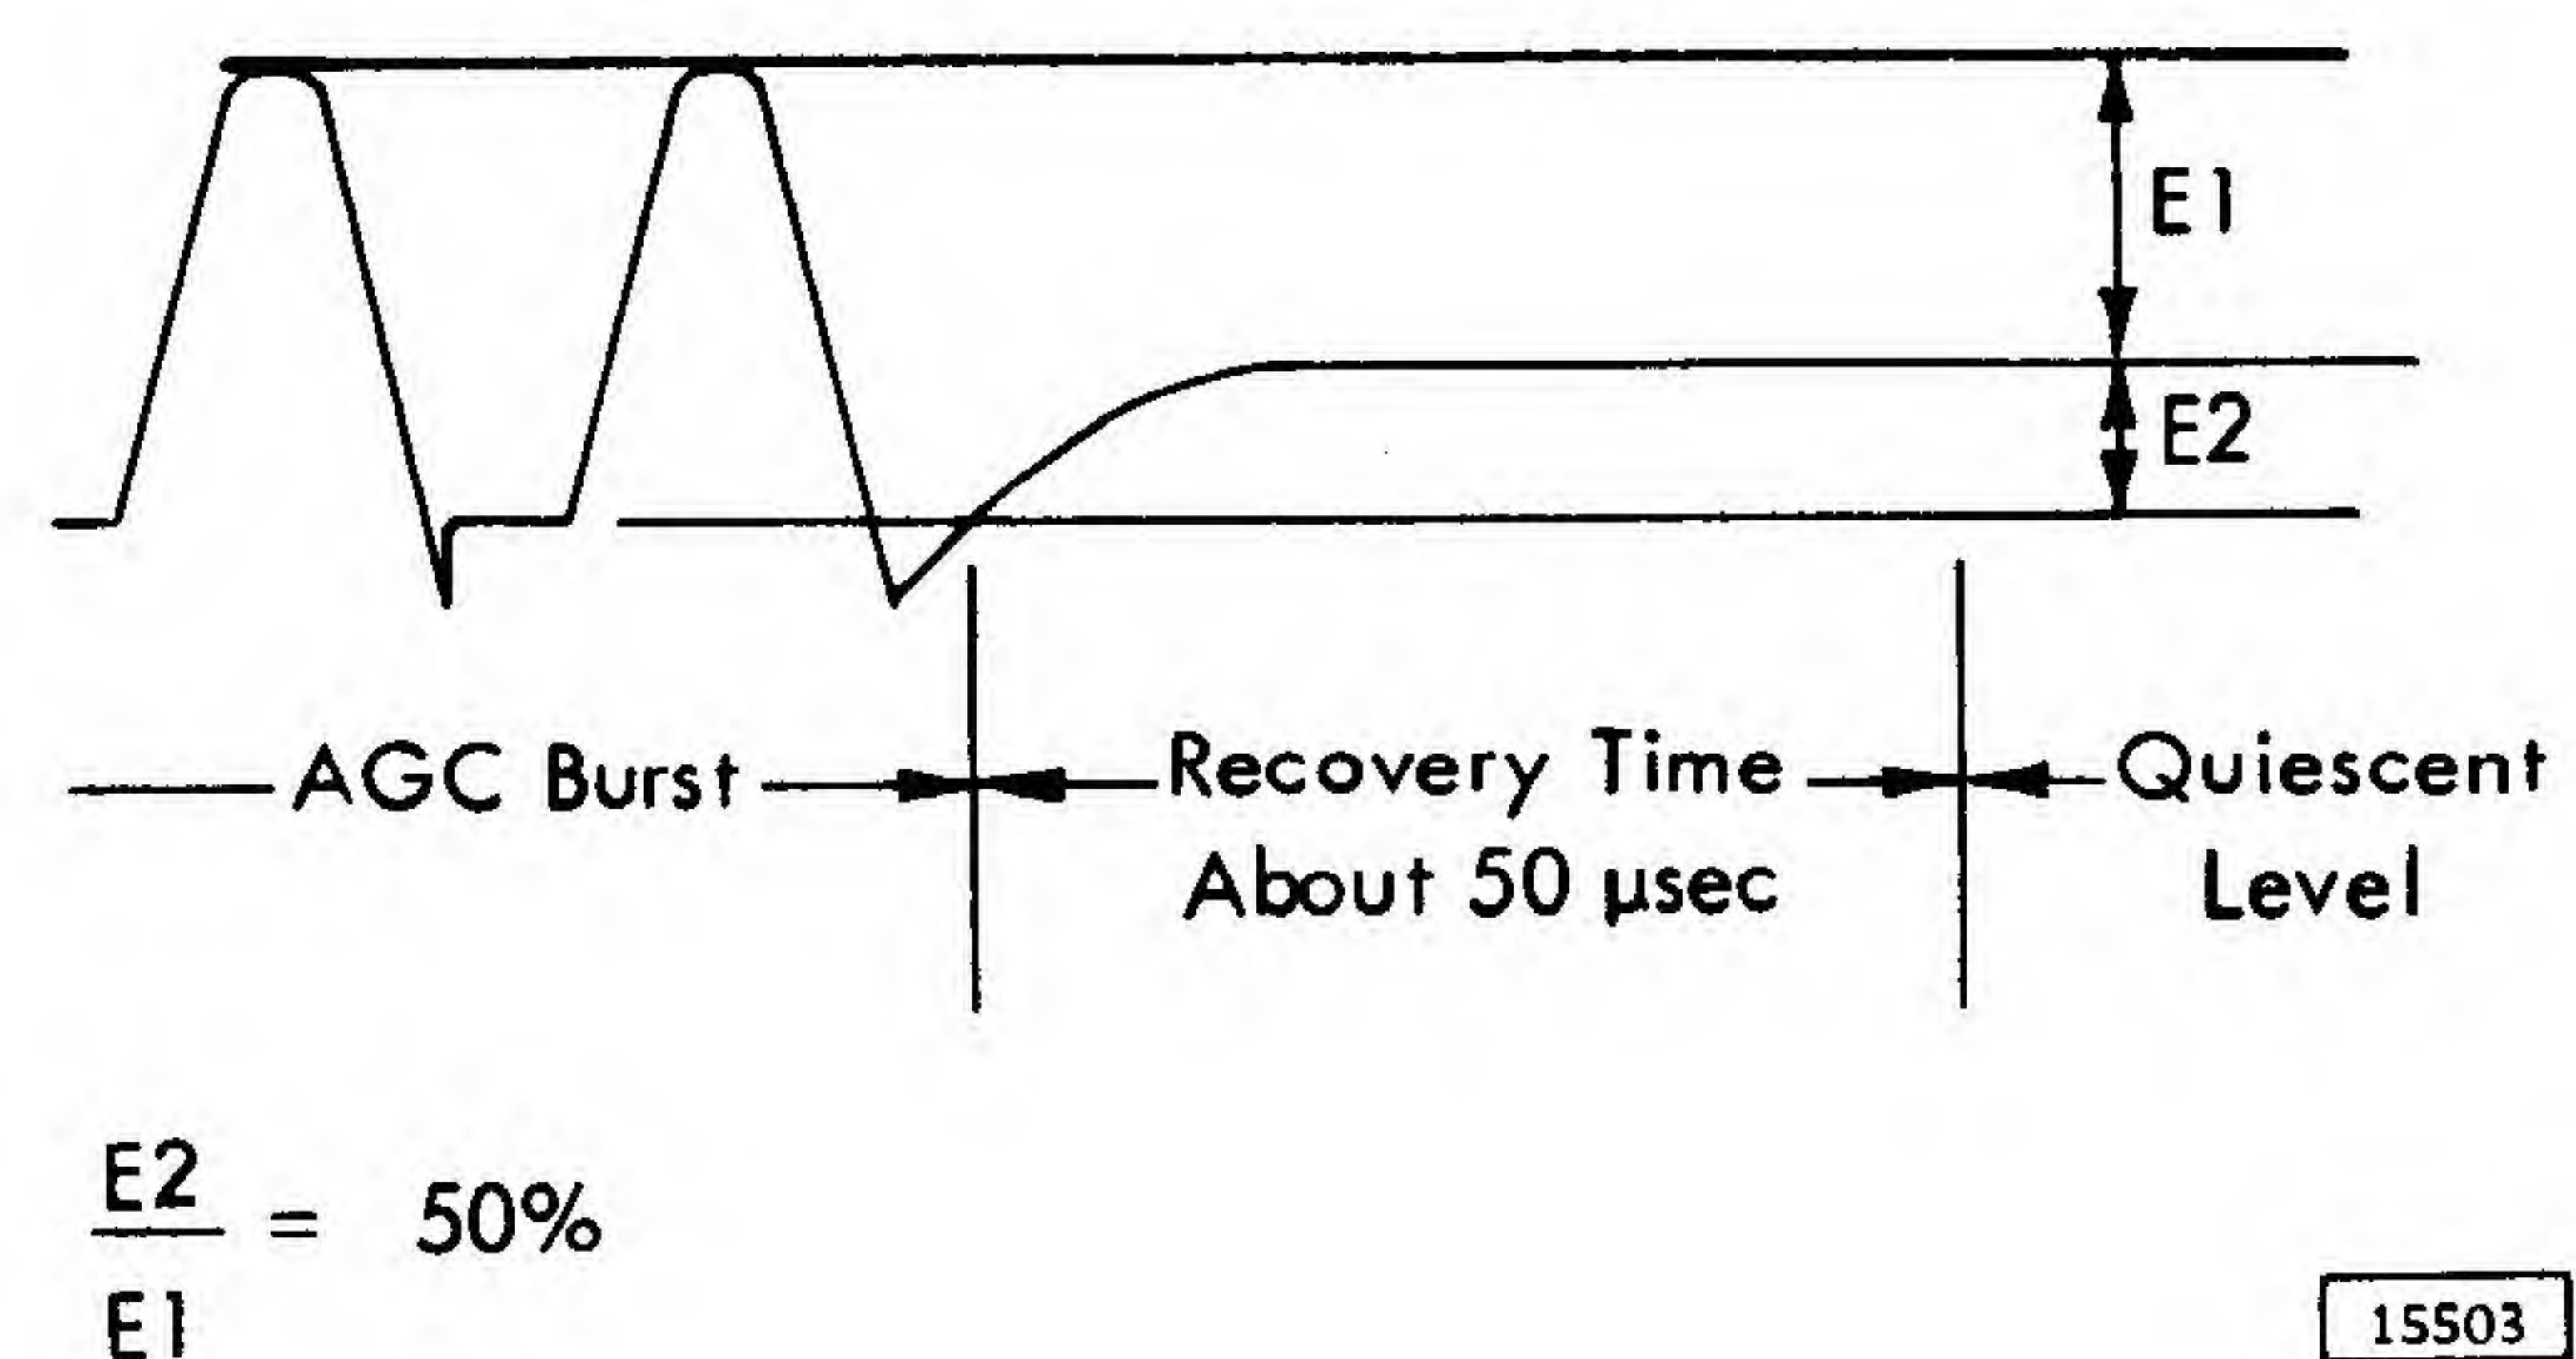

Figure 5-3. Format Read Amplifier Clipping Level
4. Observe pin A or the OR -AND (ANW-) at 01A5B13 and, by means of the potentiometer on this card, adjust the clipping level to 50% (Figure 5-3).
NOTE: This ratio (2-1) is easily accomplished by maintaining E2 (Figure 5-3) at a constant vertical deflection of one cm (by means of the oscilloscope variable voltage control), and adjusting the potentiometer on the OR-AND (ANW-) to obtain a vertical oscilloscope deflection of two cm for E1.